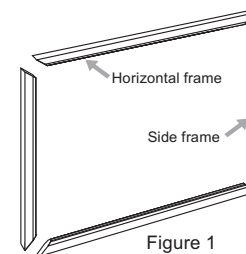

Figure 1
1. Locate Horizontal frames and Side frames on tidy flat surface. (Figure 1)